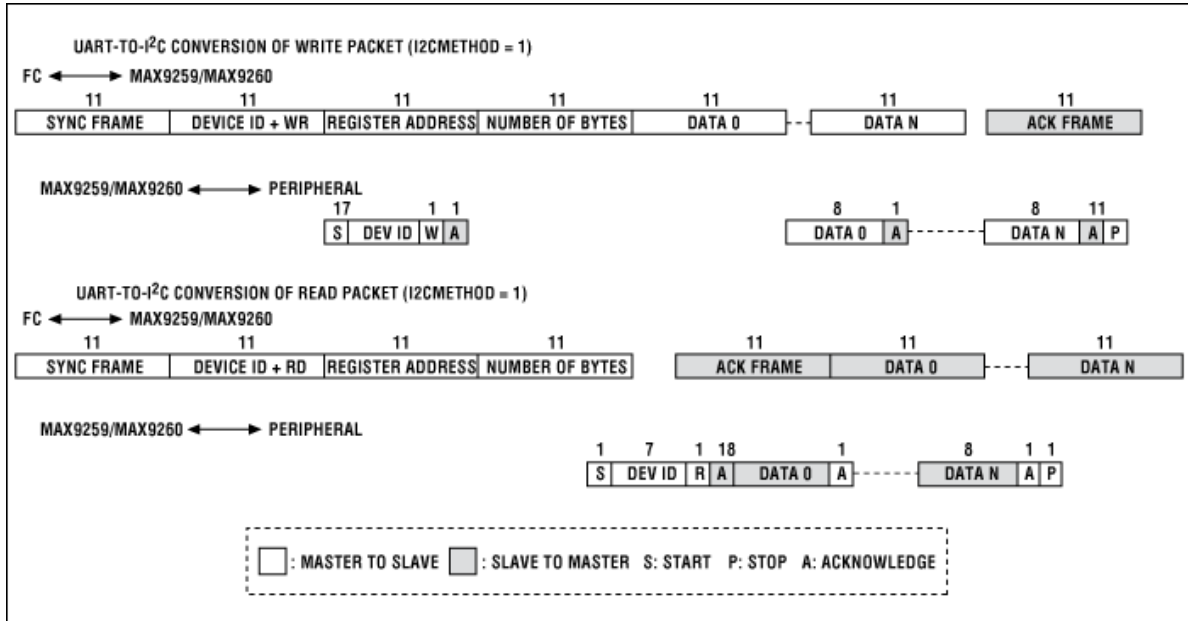

Figure 1. Format conversion between UART and I²C in Command-Byte-Only Mode (I2CMETHOD = 1).
Set I2CMETHOD = 1, following the standard GMSL UART protocol to send the read/write packet. The UART/I²C converter will remove the 8-bit Register Address in the read/write packet as illustrated in **Figure 1**.
3.1. **Write Operation.** Set I2CMETHOD = 1 and follow the standard GMSL UART protocol to send the write packet. Put the 16-bit index register address in the first two bytes of data and make the Number of Bytes equal to the original number of bytes needing to be sent plus two. The UART/I²C converter will remove the 8-bit Register Address in the standard write packet as illustrated in the Figure 1.